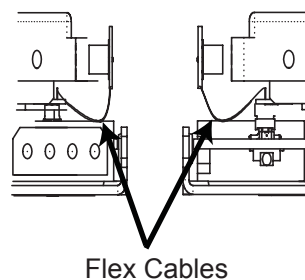

Figure 10 Flex Cable View
9. Gently unseat the drive to a disengaged distance, approximately $\frac{1}{4}$ of an inch, causing the flex cables to bow in a loop. (Refer to Figure 10.) Carefully disconnect the flex cable from the faulted disk drive. Detaching the drives from the flex cable in a forceful manner will damage the flex cable.
12. Before the disk drive is fully seated (approximately $\frac{1}{4}$ of an inch to the drive being fully seated) re-attach the flex cable to the disk drive. Refer to Figure 10 for a view of this procedure. Carefully align and slowly attach. Pay close attention to mounting the flex cable. Ignoring this procedure and caution can lead to damage in future operations.